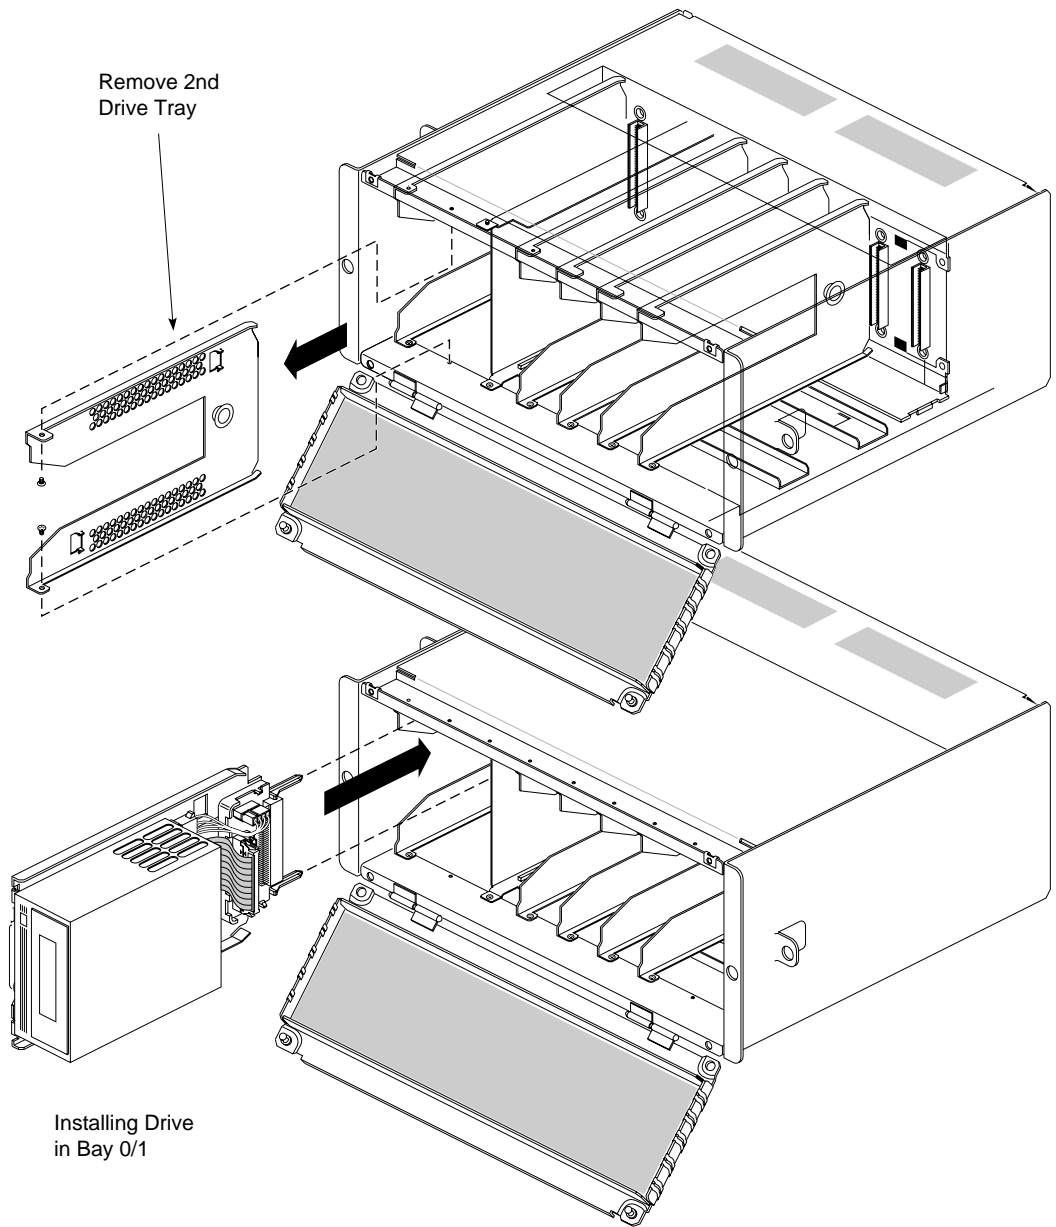

Figure 3-8 Removing the Drive Tray and Installing the Full-height Drive
2. Remove the two screws that secure the drive tray to the top and bottom of the RAID box chassis (see Figure 3-8).